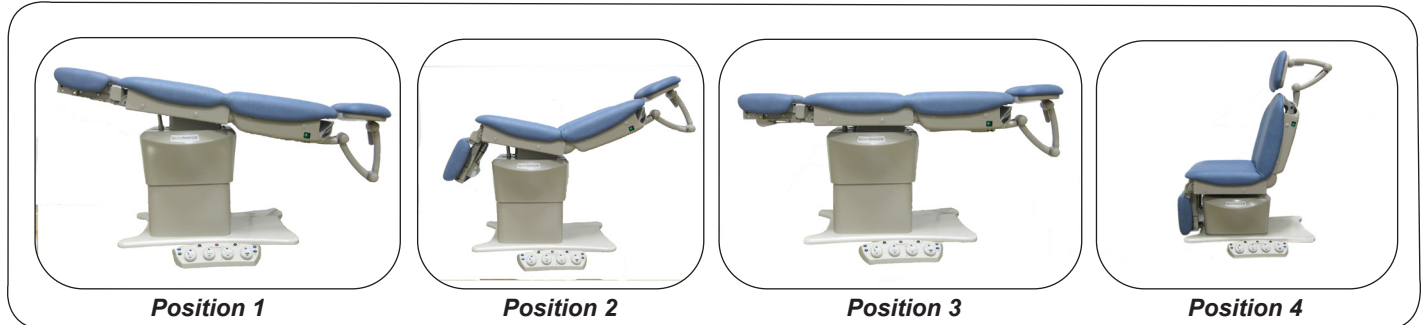

Figure 25
2. The table is already programmed from the factory with four preset positions. See Figure 25.